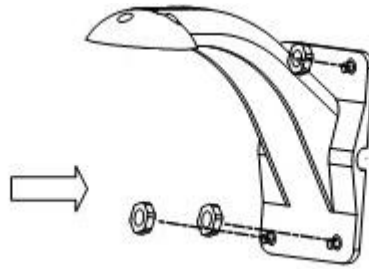

Figure 7
5. Please fix the bracket on the wall (Figure 7) .